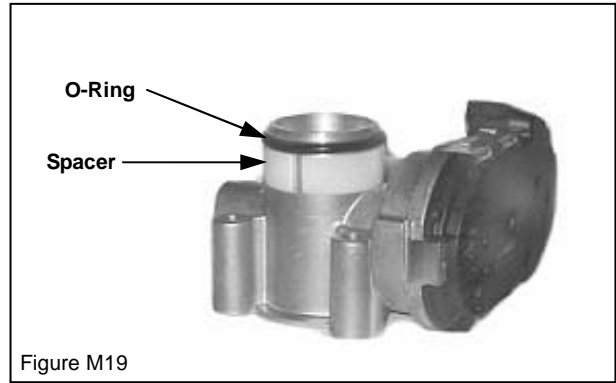

Figure M19
7. Place the throttle adapter O-ring over the outside throat of the throttle, below the throttle bore retaining lip and on top of the O-ring Spacer (Figure M19). Apply a generous amount of lubricating grease (vacuum grease) to the O-ring and fully seat it against the machined surface.